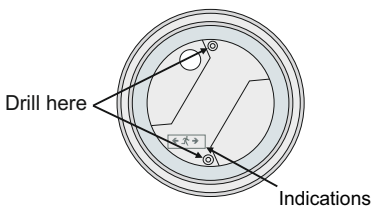

Figure 5
**Step 3.** Drill 2 holes on the base (Figure 5) using a 4mm drill bit in order to permit the retaining screws to pass. Mark these two drilled points on the required mounting location, drill the holes and install the supplied plastic plugs. **ATTENTION!! Especially for the GR-290/ADR and GR-292/ADR luminaire installation on the ceiling you must align the base with the indications on the luminaire's base.**